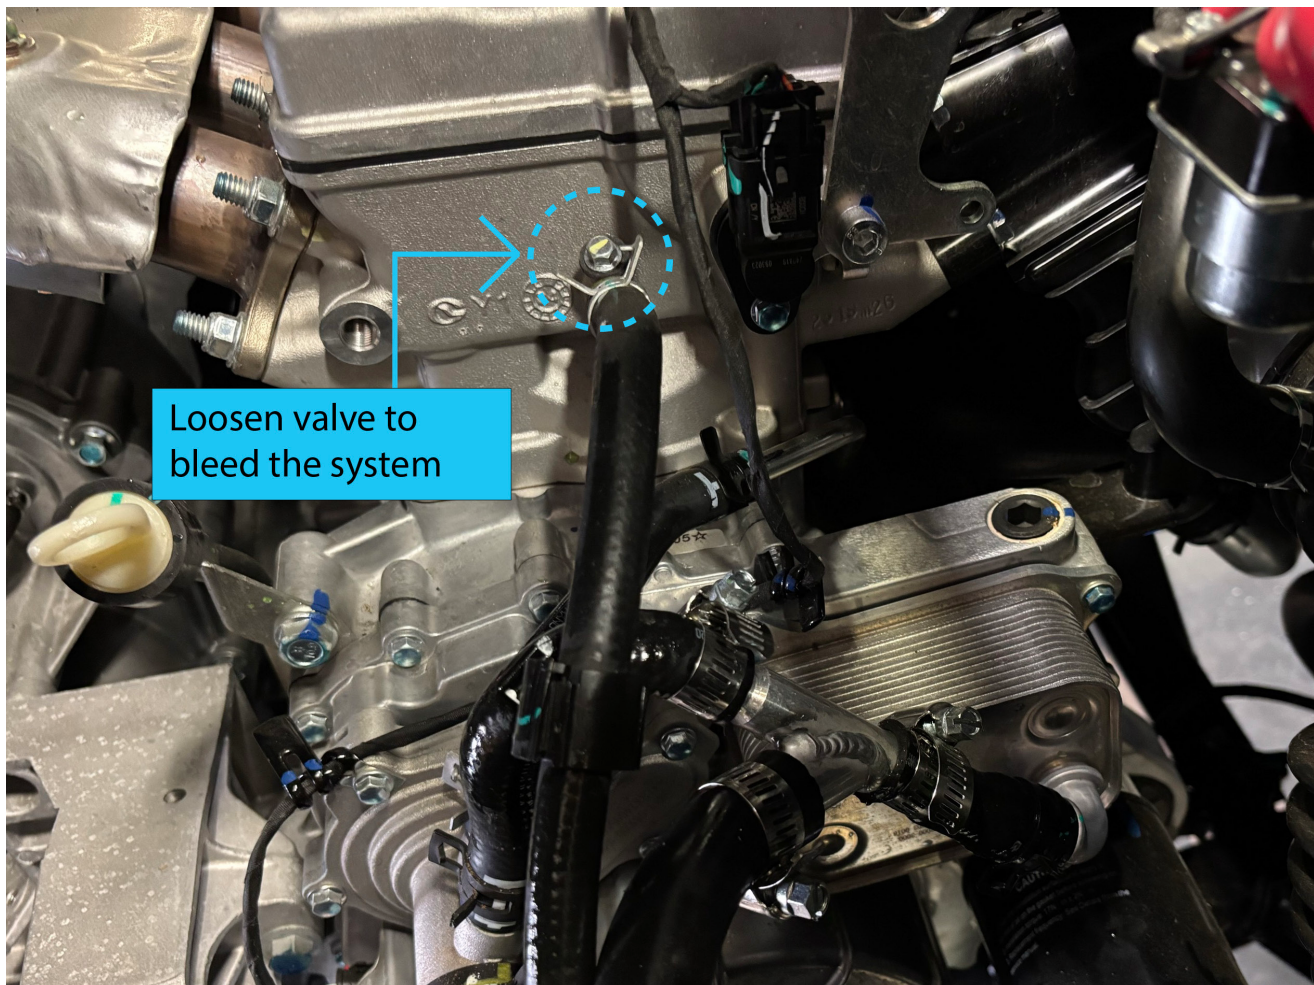

FIGURE 12
49. Open the bleed valve on engine. FIGURE 12